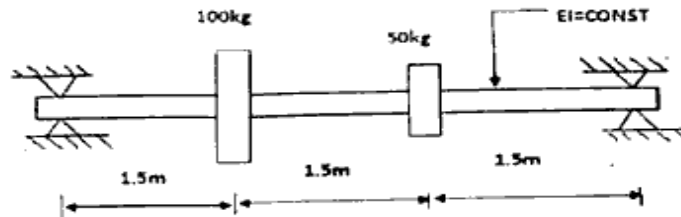

Figure 4 (चित्र 4)
5. Find the lowest natural frequency of vibration of system shown in Figure 4.